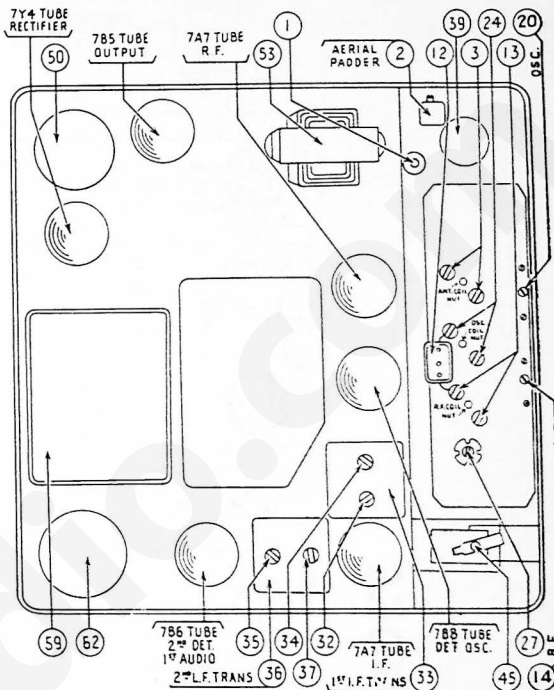

FIGURE 1
**NOTE 5** — When installing the radio in the car, follow the installation instructions carefully. Tune in a weak broadcast signal between 1200 and 1400 Kilocycles on the control scale. Remove the plug button on the end of the radio and adjust the aerial compensator Ⓣ (see Figure 1) for maximum signal.